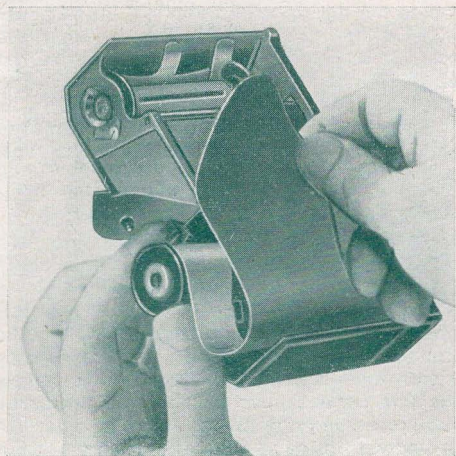

Fig. 9
Open the lower film chamber (39). Unfold the flap (40). Completely remove the gumstrip from the film. Unroll about 10 cm (4") of the protective paper, but hold the film tight to avoid penetration of light. Put the roll film into the lower film chamber, with the colored, printed surface inward, so that the paper leader can be drawn around the large film-sliding roller (38) and across the film pressure plate (37) to the empty spool (Fig. 9). The black surface of the protective paper must be visible! Hold the protective paper tight. Close the lower film chamber (39). Introduce the pointed leader of the protective